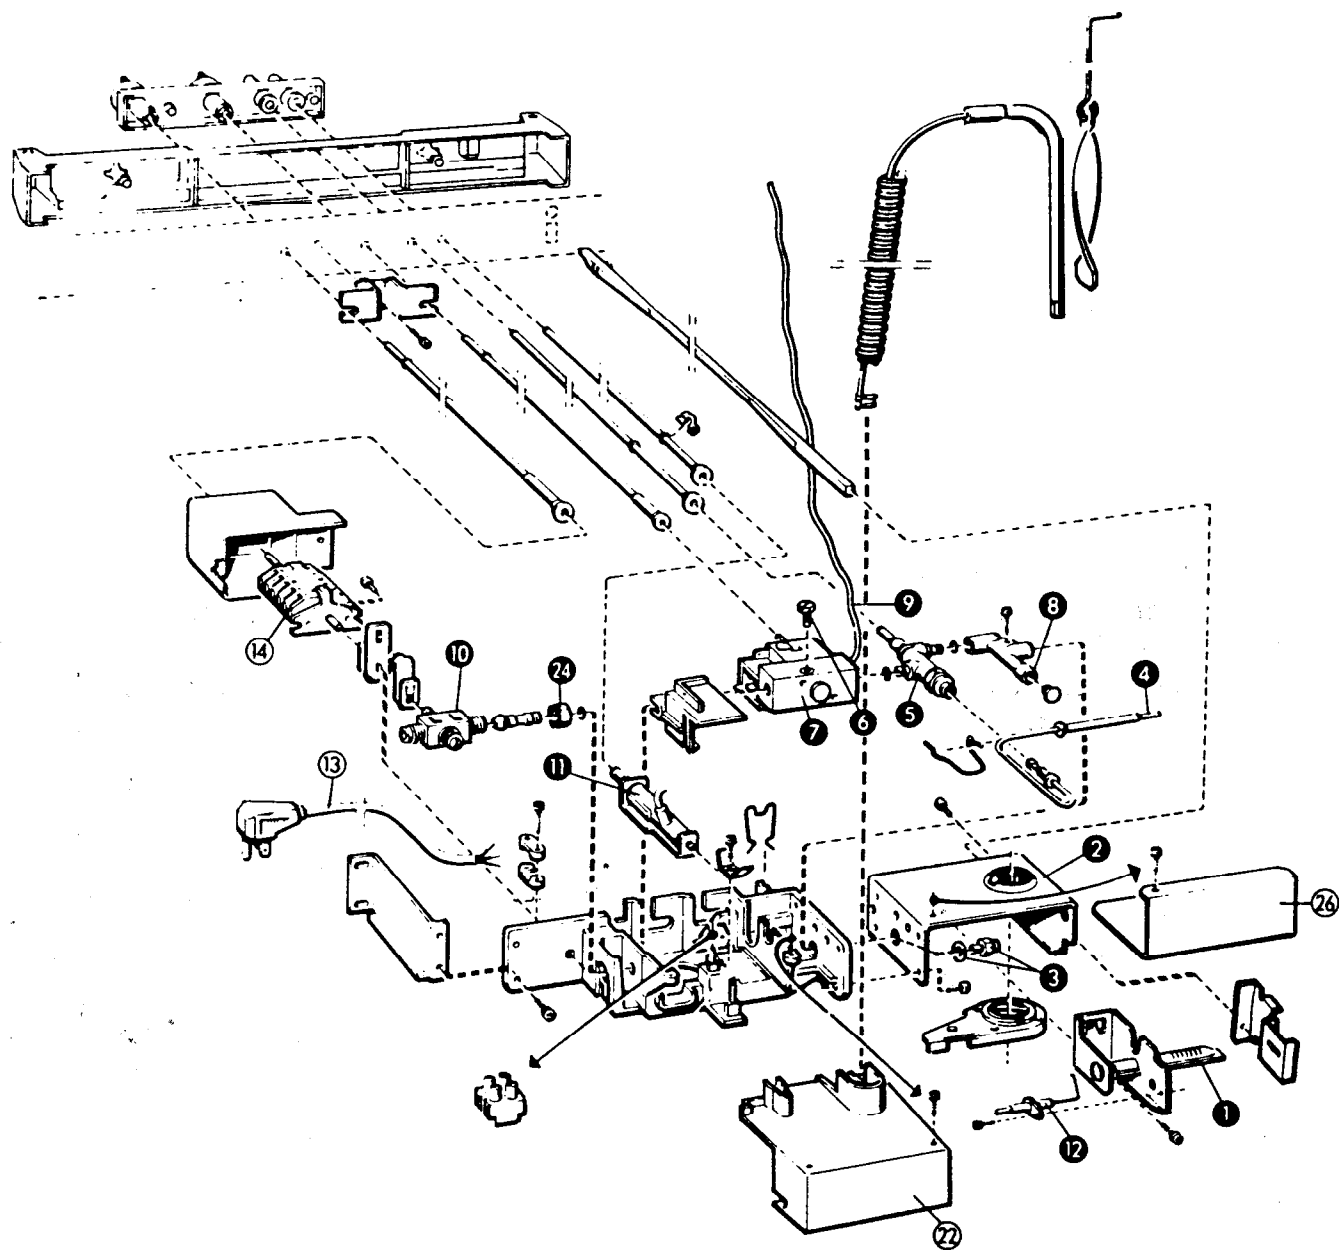
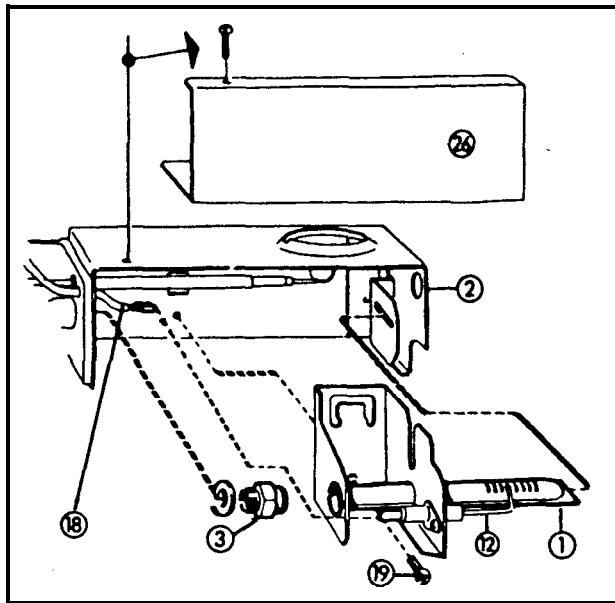

Fig. 1
Fig. 2
5. Remove cover plate, see (26) in fig. 2. Open the gas valve by turning the knob A to position "GAS" without pushing the button C and D. Test that no gas comes through the jet, item 3 in fig. 1 or 2. Use soapy water. Be careful not to damage the jet.